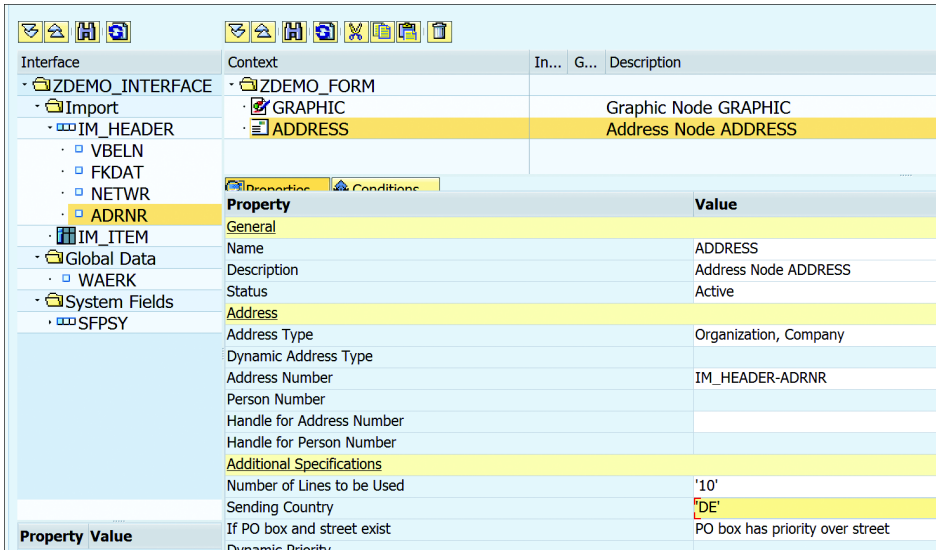

Figure 18.81 Address Node
3. For this example, assign the `ADRNR` field of the `IM_HEADER` structure to the ADDRESS NUMBER, as shown in Figure 18.81. You also need to assign the `SENDING COUNTRY`.